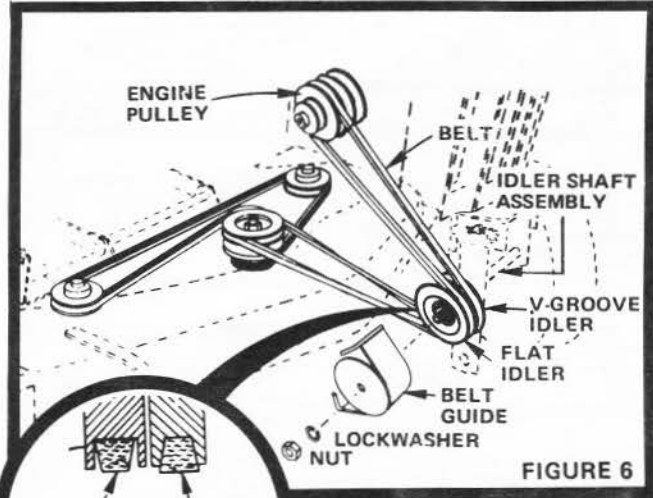

FIGURE 6
- 19. Remove Nut, Lockwasher and Belt Guide (Fig. 6). Place Belt on Idler Sheaves and on Engine Pulley. NOTE: See Fig. 6 for proper way of installing Belts on Idler Sheaves. Back-side (outside) of Belt must be placed in Flat (outside) Idler. Belt must be placed in largest groove on Engine Pulley.